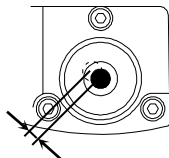

Fig.5.3
- 4) Eliminate the remaining half shift by using the hexagonal wrench to adjust the circular level adjusting screws (5) ( Fig.5.3 ).